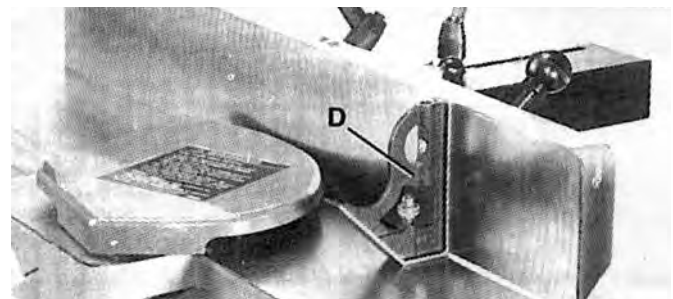

FIGURE 42
2. Place a square (D) Fig. 42, on the table and against the fence and check if fence is 90° to table.